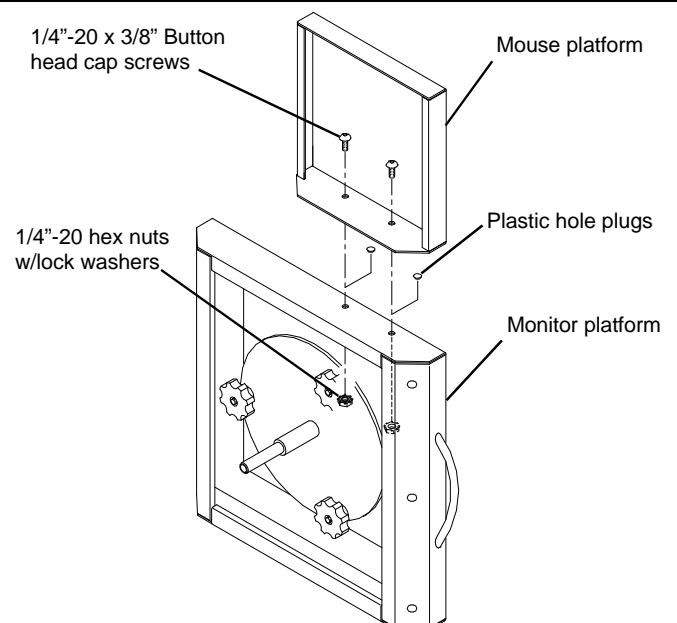

Figure 4
1. Determine the installation side and remove the two plastic hole plugs from the Monitor Platform. See **Figure 4**.
2. Attach the Mouse Platform to the Monitor Platform using the 1/4"-20 x 3/8" Button head cap screws and 1/4"-20 hex nuts. Tighten securely. See **Figure 4**.